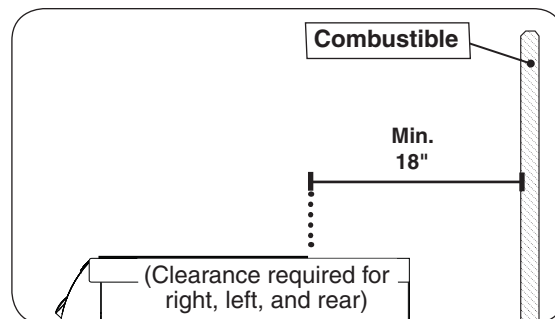

Fig. 10-3 Clearance 'C' Diagram
- The unit must have a minimum of 18" right, left, and rear clearance from any combustible wall (see Fig. 10-3).